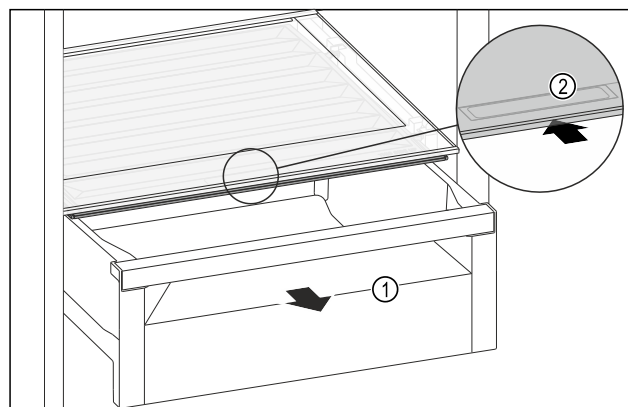

Fig. 201
- Pull out the drawer Fig. 201 (1).
- ▶ Grasp the recessed grip *Fig. 201 (2)* on the compartment lid and push the compartment lid backwards at the same time.